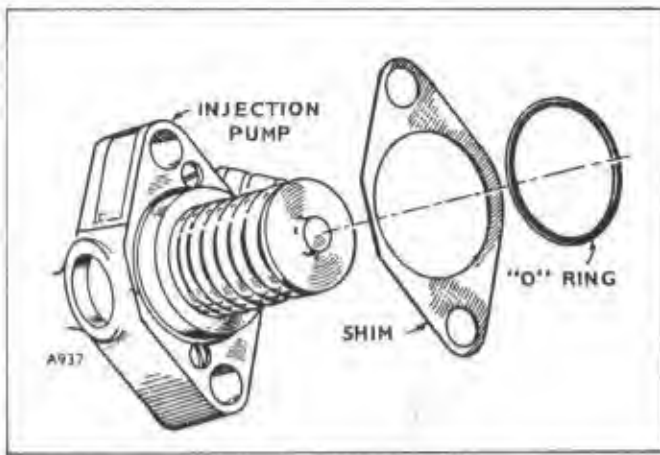

Figure 32. Shimming The Pilot
1. Slide the shim or shims (Using proper thickness of shims for correct timing) over the pilot until they are flat on the pump flange (Fig. 32).